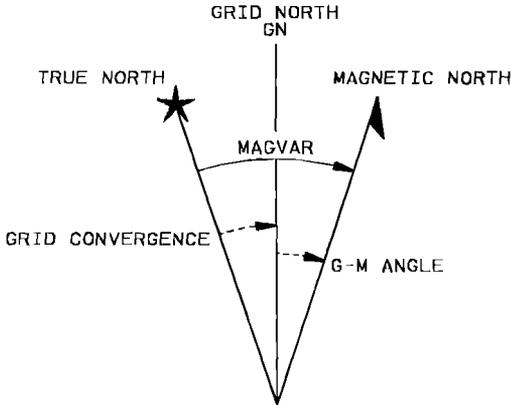

Figure 3-11 True/Grid/Magnetic Relationships.
3.5.5.2.3 Aeronautical and marine charts contain a diagram that shows *MAGVAR*; grid maps contain a diagram that shows the *Grid Magnetic (G-M) Angle*. The following diagram in Figure 3-11 shows an example of the relationship between *True North*, *Grid North*, and *Magnetic North*.